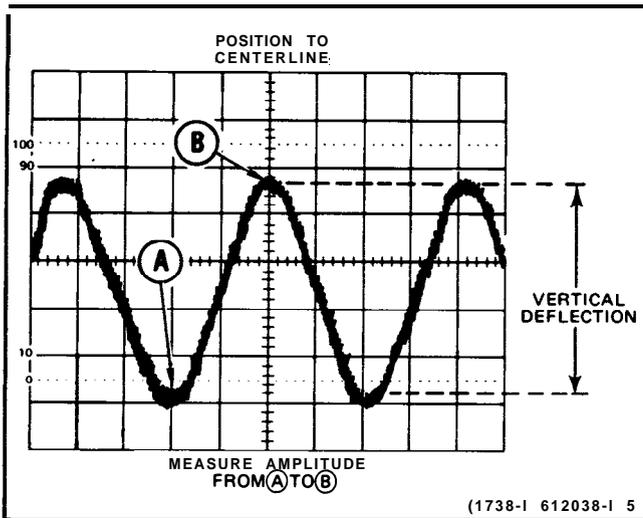

Figure 11. Peak-to-peak waveform voltage.
6. Vertically position the display so that the negative peak of the waveform coincides with one of the horizontal graticule lines (see Figure 11, Point A).
7. Horizontally position the display so that one of the positive peaks coincides with the center vertical graticule line (see Figure 11, Point B).
8. Measure the vertical deflection from peak to peak (see Figure 11, Point A to Point B).
EXAMPLE: The measured peak-to-peak vertical deflection is 4.6 divisions (see Figure 11) with a VOLTS/DIV switch setting of 0.5, using a 10X probe.